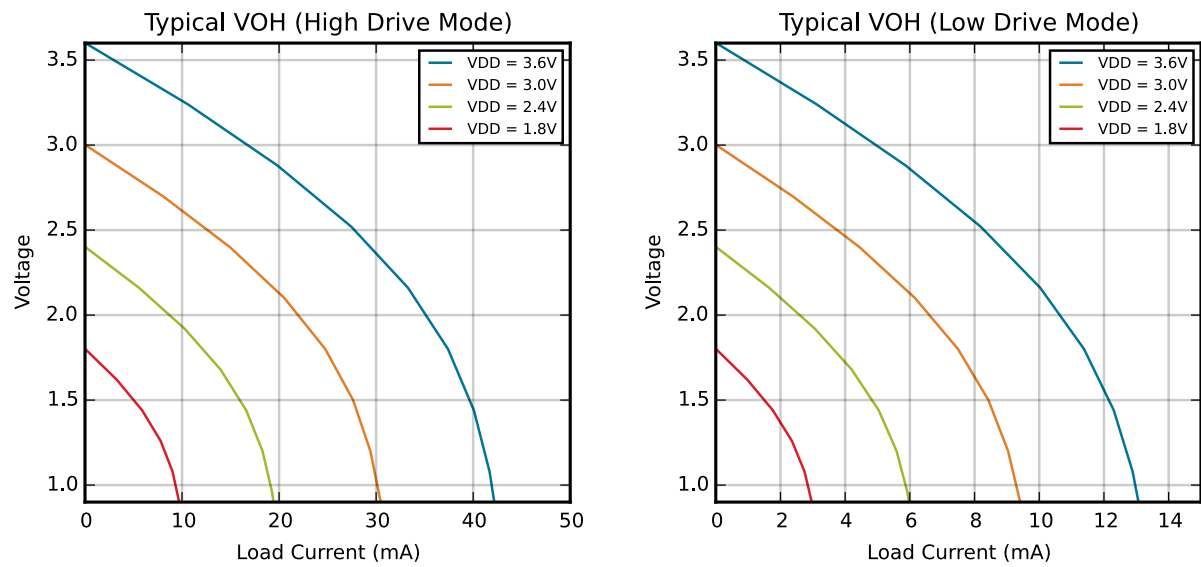
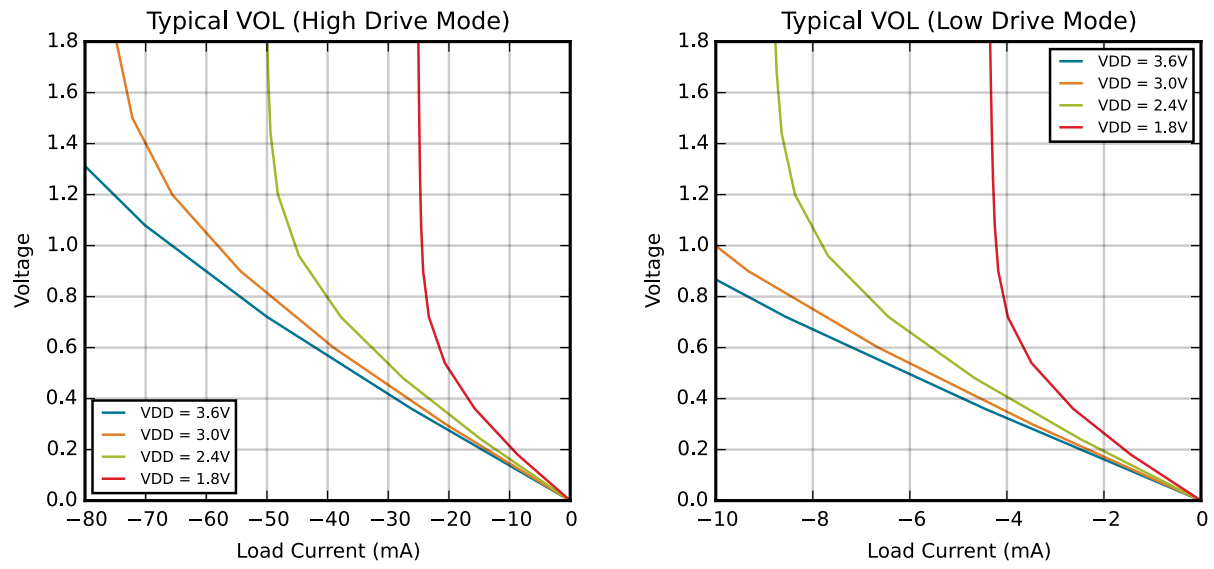

Figure 4.2. Typical VOH Curves
Figure 4.3. Typical VOL Curves
1. See Figure 4.2 Typical V_{OH} Curves on page 24 and Figure 4.3 Typical V_{OL} Curves on page 25 for more information.